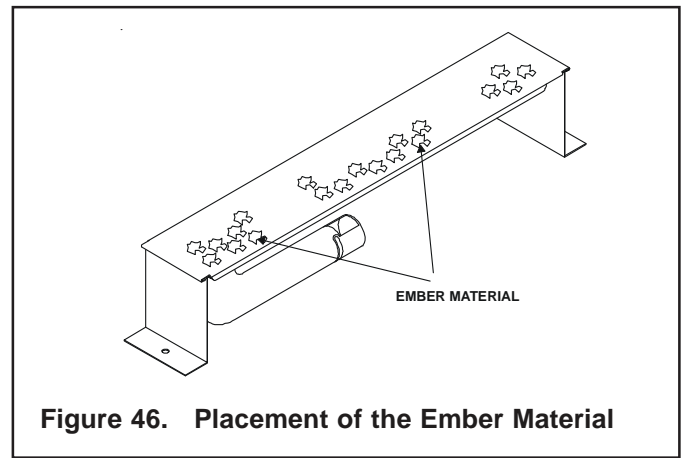

Figure 46. Placement of the Ember Material
- When placing Glowing embers onto the burner care should be taken so that the ports are not covered. Place the embers along side the port trail, but not on or in between the ports (see Figure 46). Failure to follow this procedure will likely cause lighting and sooting problems.